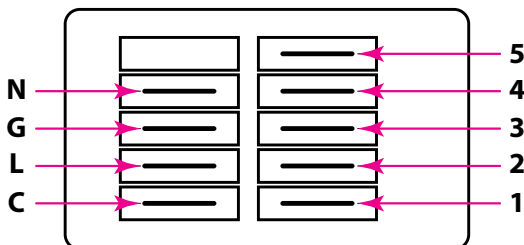

Figure 27: Constant Torque Motor Terminals
4. Move the BLACK and RED wires connected to terminals 1-5 on the motor terminal block (See Figure 27) to the desired speed taps. See Table 21 for the speed tap descriptions. Reinstall the blower access panel.